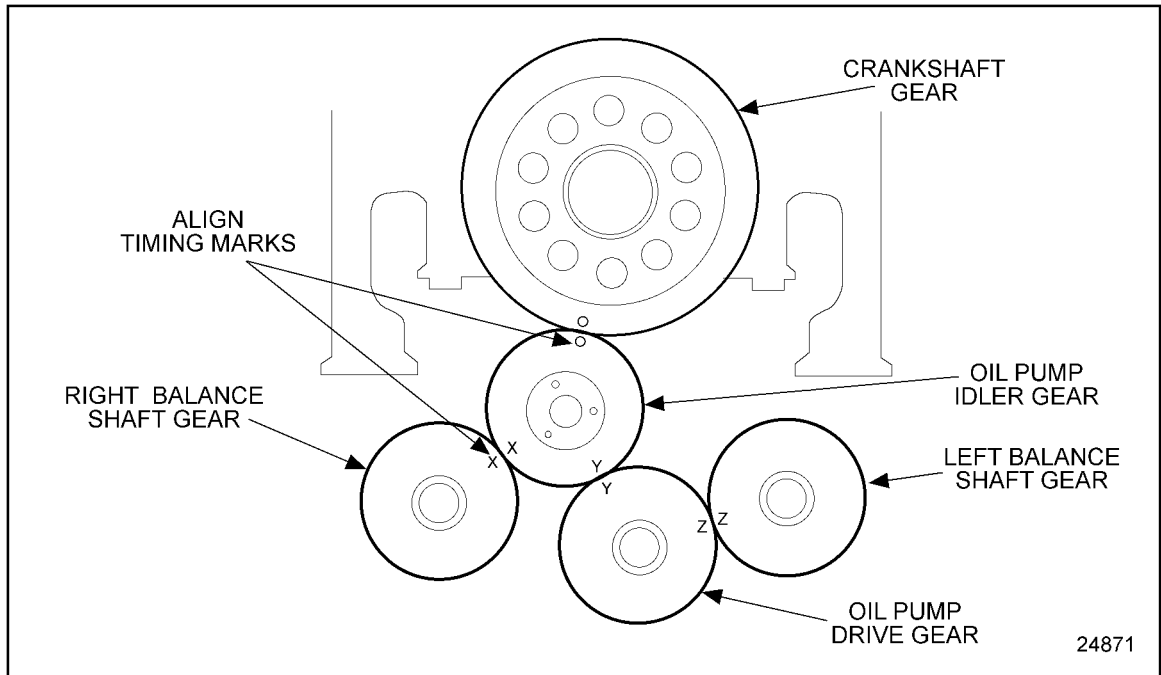

Figure 1-382 Balance Shaft Drive Gear Timing
- Spin the pump/idler gears until the "Y" letters line up. See Figure 1-382. This may require up to 20 turns.
- With the "Y's" lined up on the pump gear and idler gear, install the left and right balance shafts with the timing marks lined up as shown. See Figure 1-382.